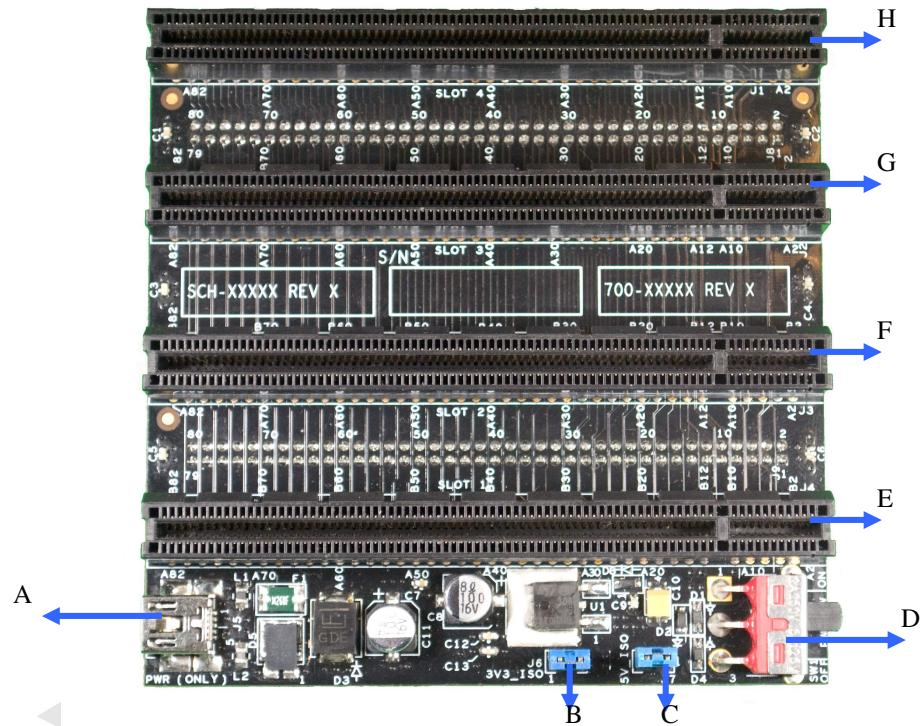

Figure 4 - TWR-ELEV Primary
- Shunt 1-2 of J6 (See B of Figure 4 - TWR-ELEV Primary)
- Shunt 1-2 of J7 (See C of Figure 4 - TWR-ELEV Primary)
Insert the Primary side of TWR-MCF54418 into the top most PCI express slot (J1 – Slot 4 see H of Figure 4 - TWR-ELEV Primary) of TWR-ELEV Primary Card
- Insert the Primary side of TWR-SER1 into the second slot from the top of the PCI express slot (J2 – Slot 3 see G of Figure 4 - TWR-ELEV Primary) of TWR-ELEV Primary Card
- Insert the Primary side of TWR-SER2 into the second slot from the top of the PCI express slot (J2 – Slot 3 see G of Figure 4 - TWR-ELEV Primary) of TWR-ELEV Primary Card